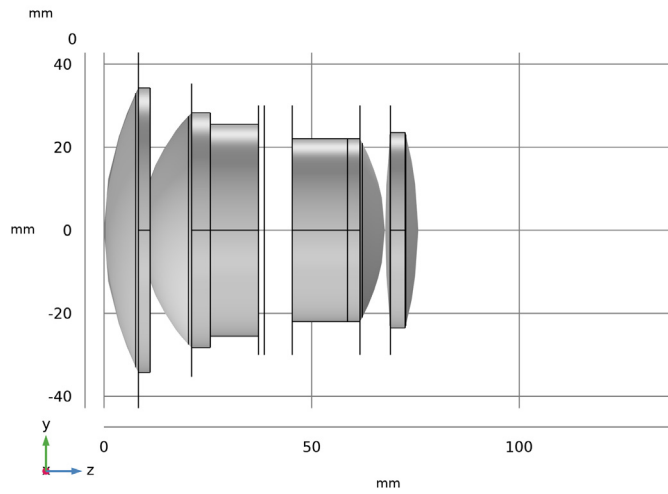

Figure 2: The double Gauss lens geometry sequence.
It is important to appreciate that the ray tracing method used by the Geometrical Optics interface is inherently nonsequential, so the same result could be obtained by placing part instances within the geometry in any order. In order to limit the rays to those which reach the focal plane, additional aperture stops and obstructions are added to the geometry. These items can also be placed by using the predefined work planes from each of the lens part instances. The double Gauss lens geometry sequence is shown in Figure 2.
- 7 Click the  **Zoom Extents** button in the **Graphics** toolbar. Compare the resulting geometry to Figure 2.